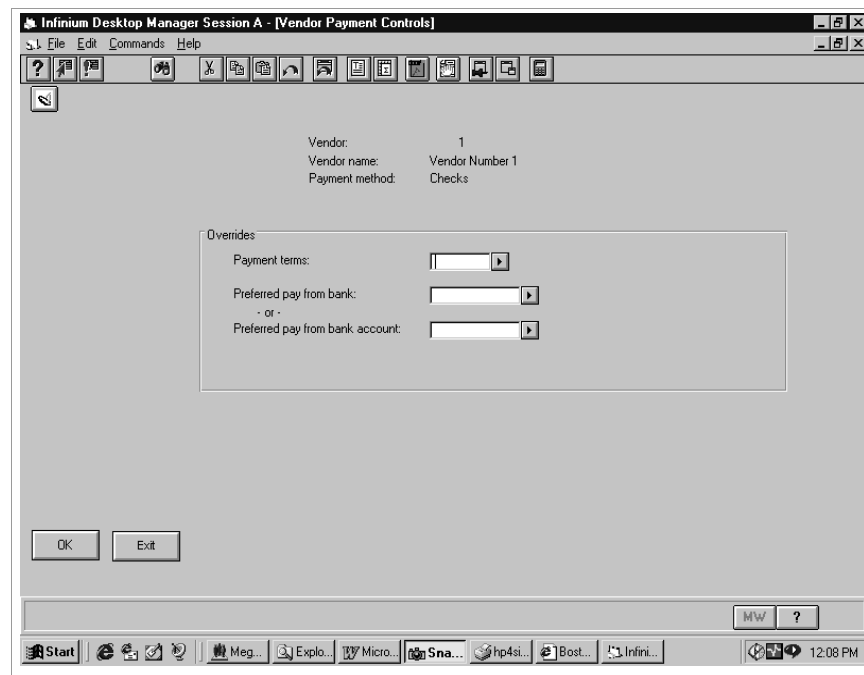

Figure 3-34: Payment Method Controls Override screen
- 2 When you select a payment method for the first time and select the **Change** or **Activate/deactivate** action, the system displays the screen shown in Figure 3-34. On this screen you can type information and automatically activate the payment method for the vendor.